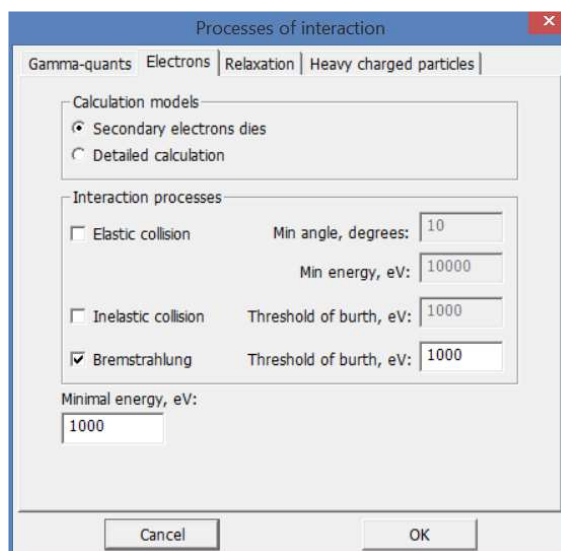

Figure 30.2. Window **Processes**, **Electrons** tab
The **Electrons** tab contains parameters that determine the interaction of electrons with matter (Fig. 30.2).
**Min. energy** - this is the minimum electron energy for which elastic scattering is generally played out. It is recommended to set this parameter higher than the parameter Minimum energy, keV (see Fig. 30.2). The fact is that the electron has a small run. The lower the energy, the less important it is. In this case, the electron should not be prematurely excluded from the calculation, since it can give birth to a brake quantum